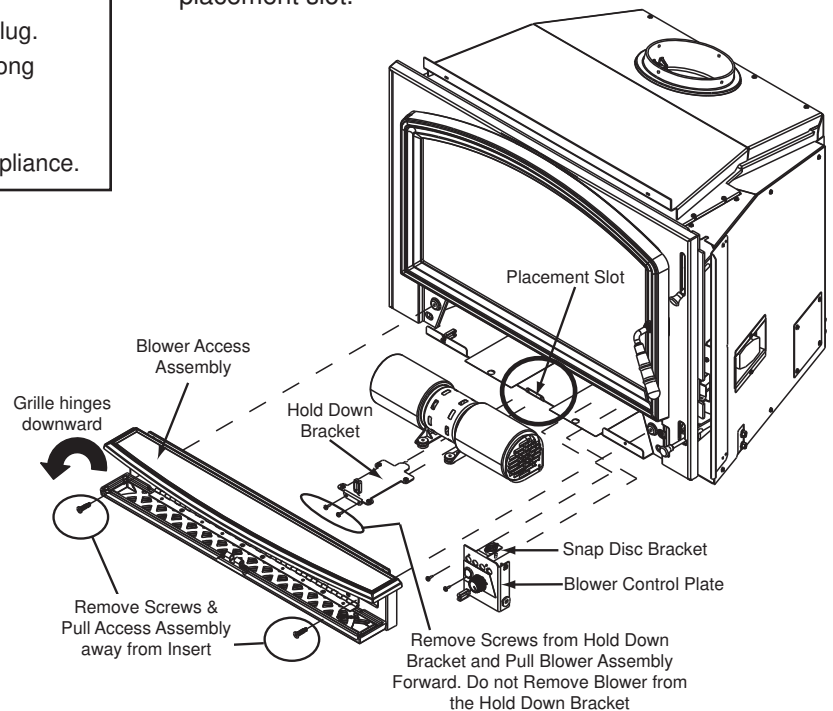

Figure 21.1
1. The grille on the blower access assembly is hinged. Swing the grille downward to expose the 2 screws. **Figure 21.1.**
1. The grille on the blower access assembly is hinged. Swing the grille downward to expose the 2 screws. **Figure 21.1 on page 21.**